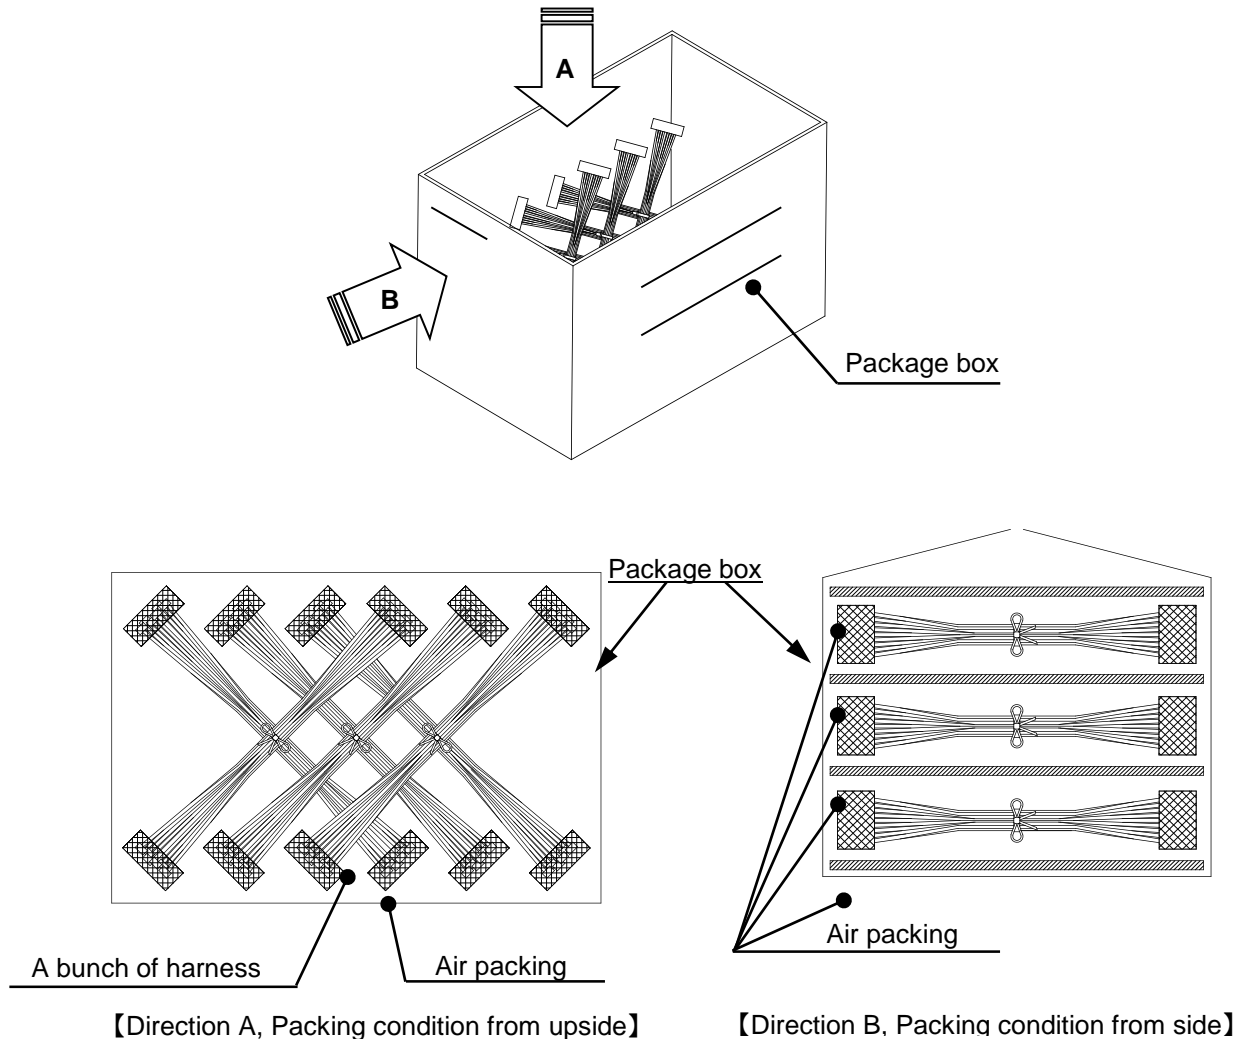

Fig. 7-2
(Fig. 7-2) Please do not apply load due to stacking on connectors, if you pack by different packing method for long harness.
- *When putting bundled harness in a package box, please avoid applying excessive force to harnesses. (Fig. 7-2 A)
- *Please lay air packing etc. on the bottom of package box. Also, please lay buffer material between bundled harnesses as necessary, in order to avoid applying force to connector for a long time by stacking harnesses. (Fig. 7-2 B)